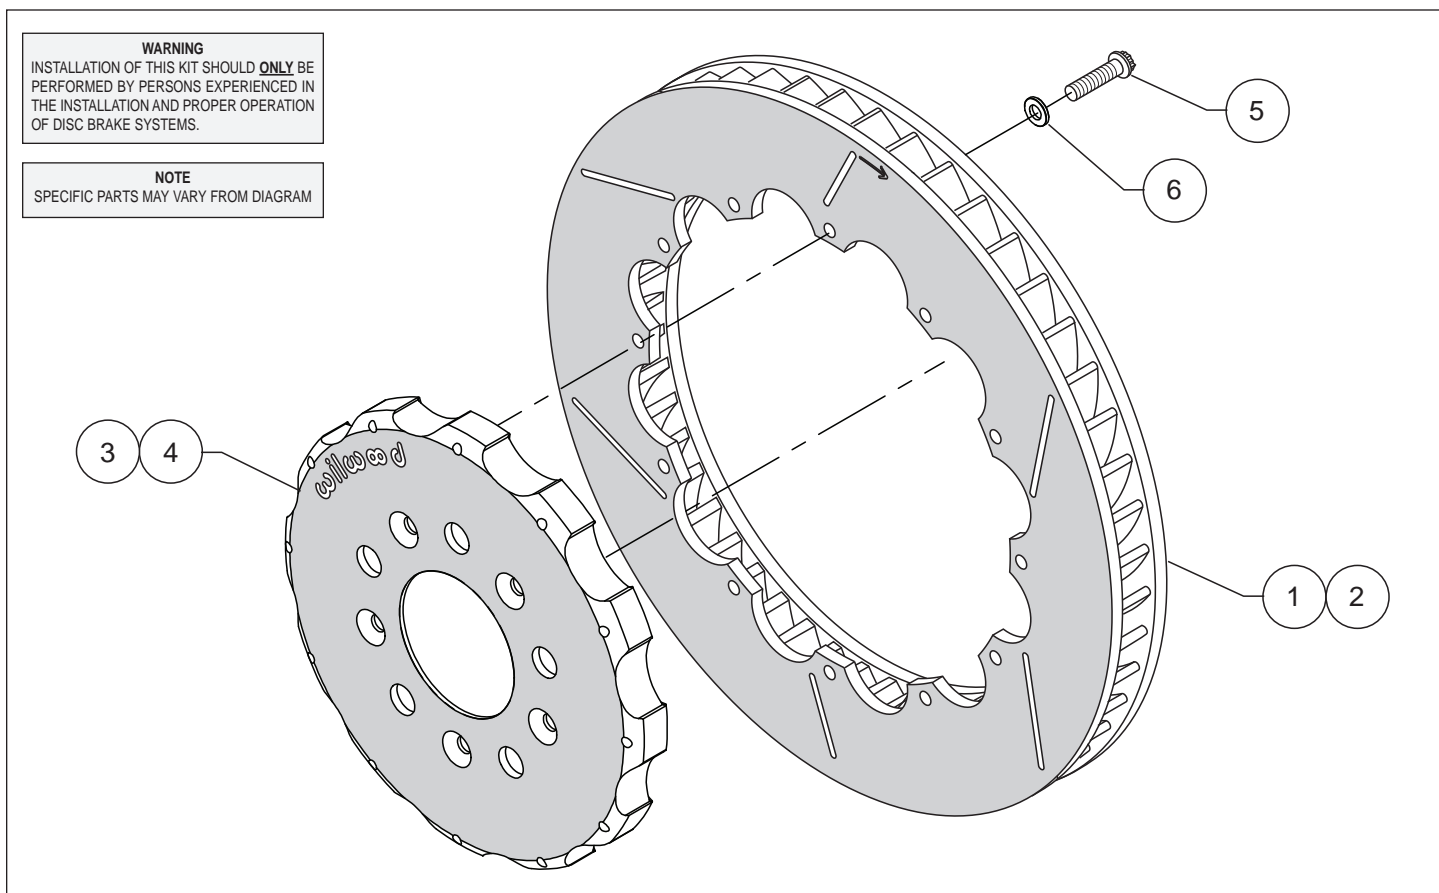
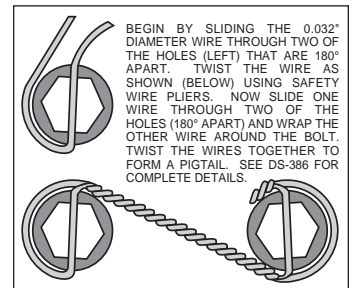

Figure 1. Typical Installation Configuration
Figure 2. Safety Wire Diagram
- Orient the rotor (1/2) and the hat (3/4) as shown in Figure 1 and Photo 1. Attach rotor to hat using bolts (5) and washers (6). Using an alternating sequence, apply red *Loctite*® 271 to the threads and torque bolts to 155 **in-lbs**. For an added measure of security, the bolts may be safety wired using standard 0.032 inch diameter stainless steel safety wire as shown in Figure 2.